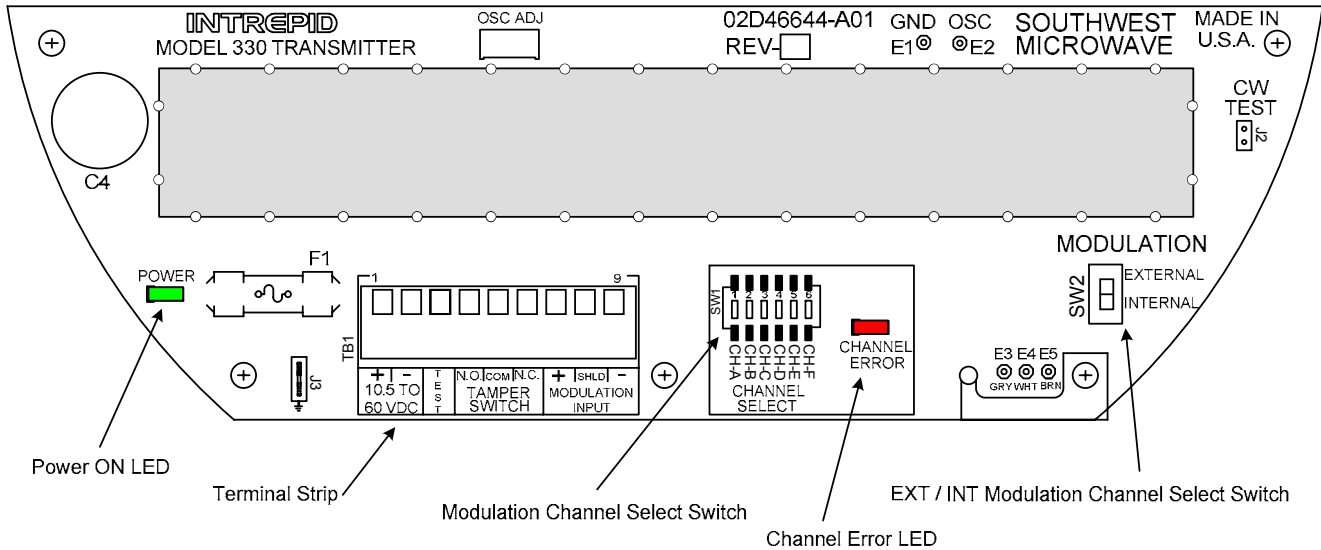

Figure 27 – MicroWave 330-33461 Transmitter
The electrical connections, switches and indicators for the MicroWave 330-33461 Transmitter are shown in Figure 27.
3. Make connections to the terminal strip according to labeled terminal functions as shown in Figure 27.